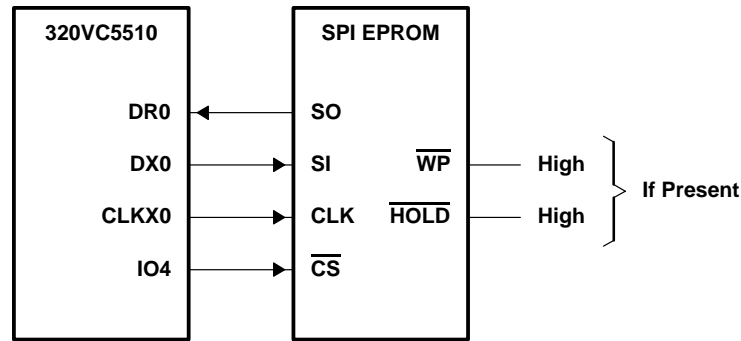

Figure 3. Signal Connections for SPI EEPROM Boot Mode
The minimum connection required between McBSP0 and the SPI EEPROM is shown in Figure 3. CLKX0 is the master clock driving the EEPROM CLK signal. DX0 transmits data to the EEPROM serial data input (SI) signal. DR0 receives data from the EEPROM serial data output (SO) signal. IO4 is used to operate the EEPROM chip select (\overline{CS}) signal. IO4 will automatically enable the EEPROM when the bootload is ready to begin, and will disable the EEPROM when the bootload is complete.